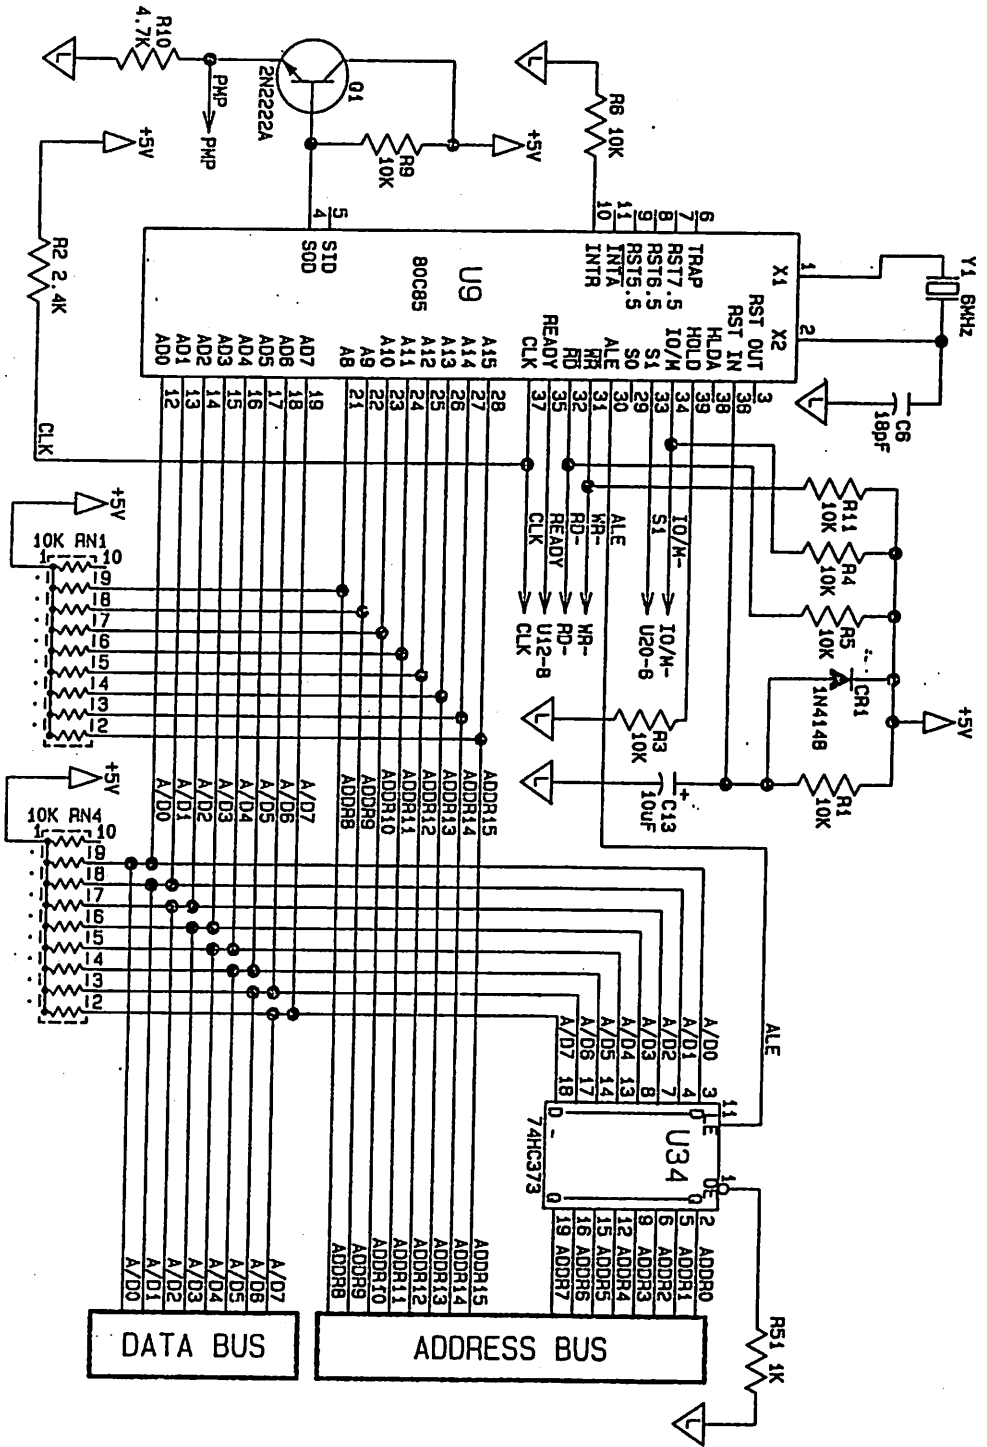

Figure 3-3. CPU and Address Latch
3.2.1 CPU and Address Latch (figure 3-3)